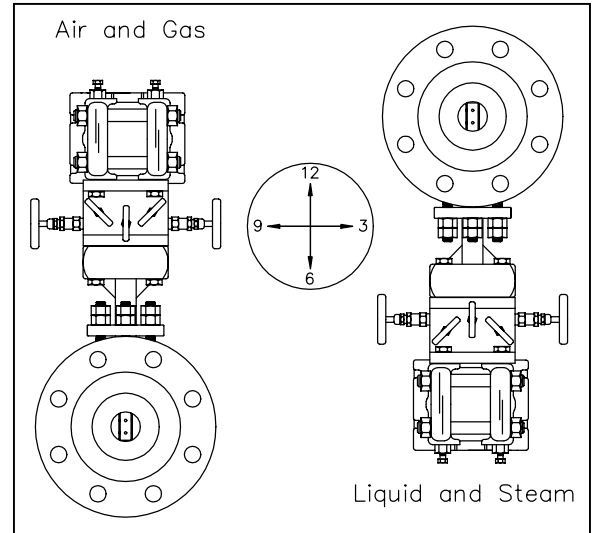

Figure 1. Accelabar Orientation in Horizontal Pipe
For air or gas applications, mount the Accelabar directly to the top of the pipe in the 12 o'clock position. For liquid applications, mount the Accelabar directly to the bottom of the pipe in the 6 o'clock position (see Figure 1). Deviation from these locations may cause inaccuracy in the flow measurement.
- Refer to Figure 1 for proper Accelabar orientation for horizontal applications (orientation is not critical for vertical applications).